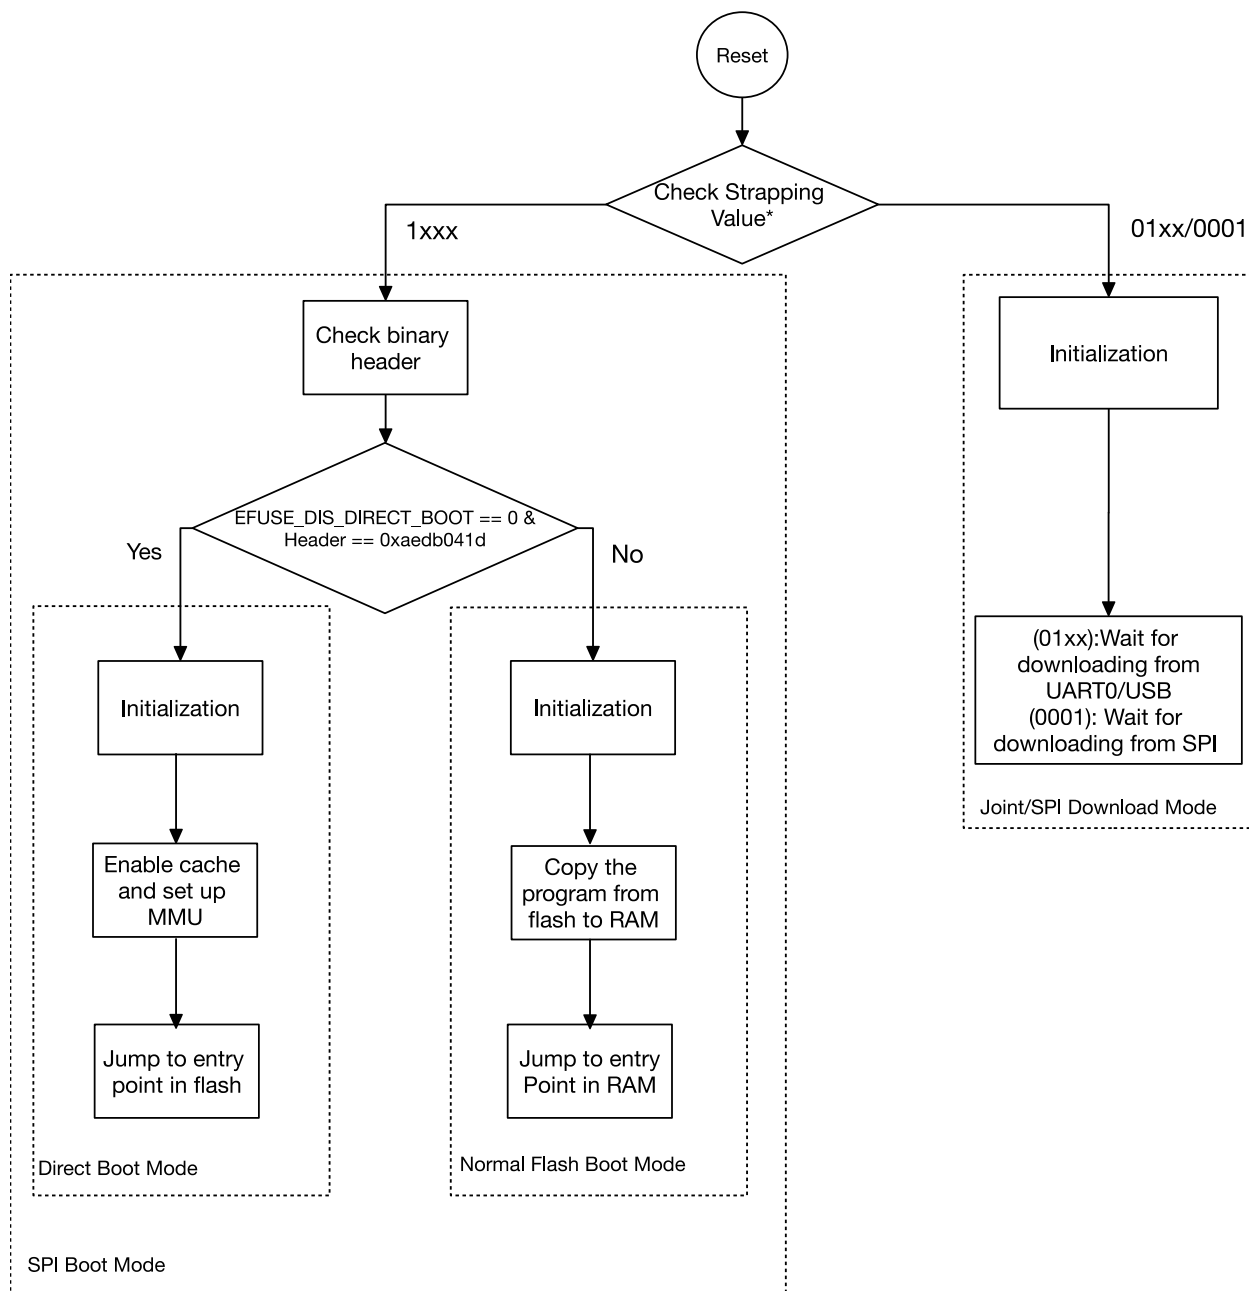

Figure 7-1. Chip Boot Flow
- Direct Boot: does not support Secure Boot and programs run directly from flash. To enable this mode, make sure that the first two words of the bin file downloaded to flash are 0xaedb041d. For more detailed process, see Figure 7-1.
Figure 7-1 shows the detailed boot flow of the chip.